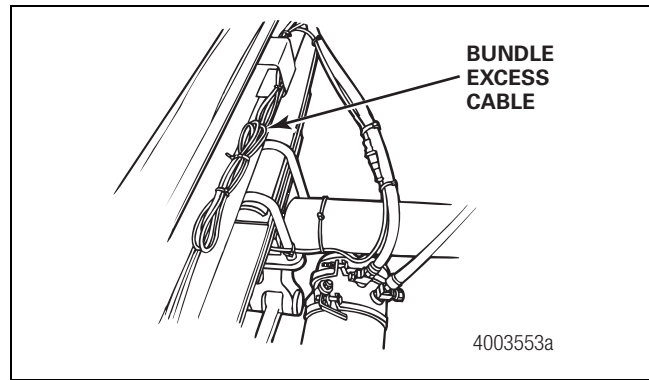

Figure 9
9. Bundle any excess cable in a loop (bow tie). Figure 9.
- D. Bundle excess cable in a loop (bow tie) and secure the cable in the sub-frame. Figure 9.